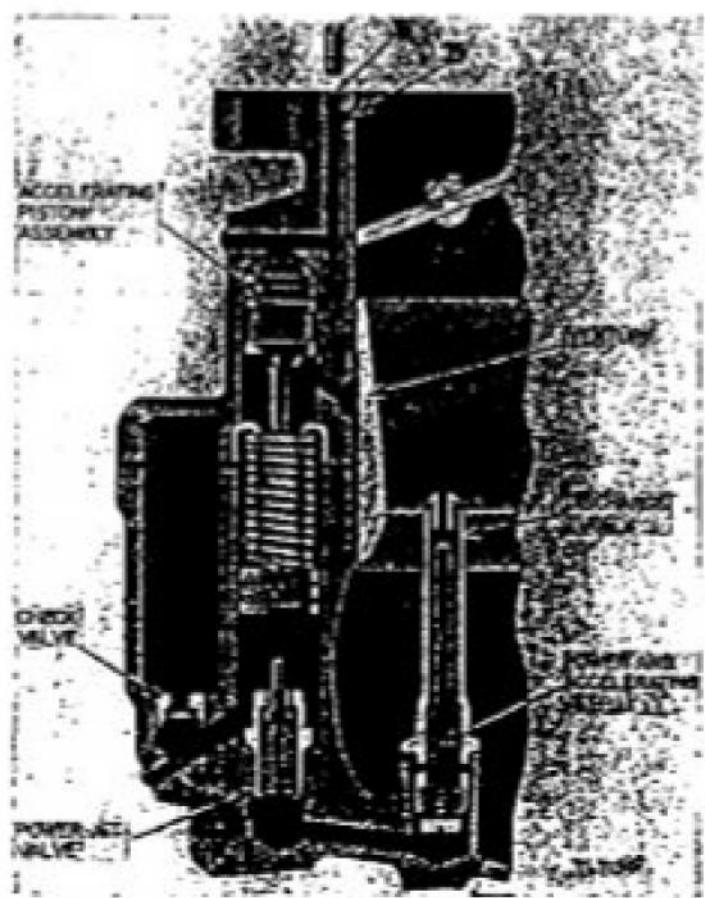

Figure 8. Smith 420 series carburetor, showing suction passages No. 1 and No. 2.
(8) *Governor operation.* The suction passages (figs. 8 and 9) are so arranged that the accelerator and economizer device will operate equally well with or without a governor. When no governor is used, the screw at the top (No. 1) is removed, and the vacuum is then transmitted down the vertical passage